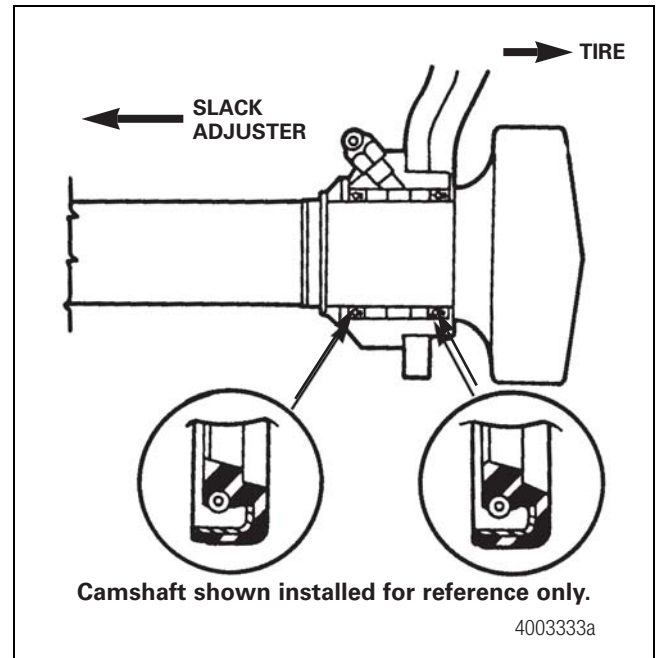

Figure 12.32
- B. For metal bushings, install two grease seals. Verify that the seal lips face toward the slack adjuster and that the seal bodies press against the metal bushing. Figure 12.32.